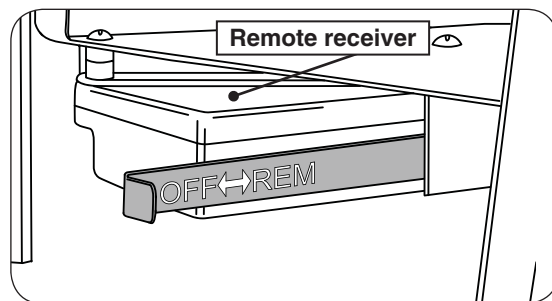

Fig. 37-1
1. Locate the OFF/REMOTE slide actuator on the left rear of the burner. Slide the actuator to the left / **OFF** position. See Fig. 37-1.